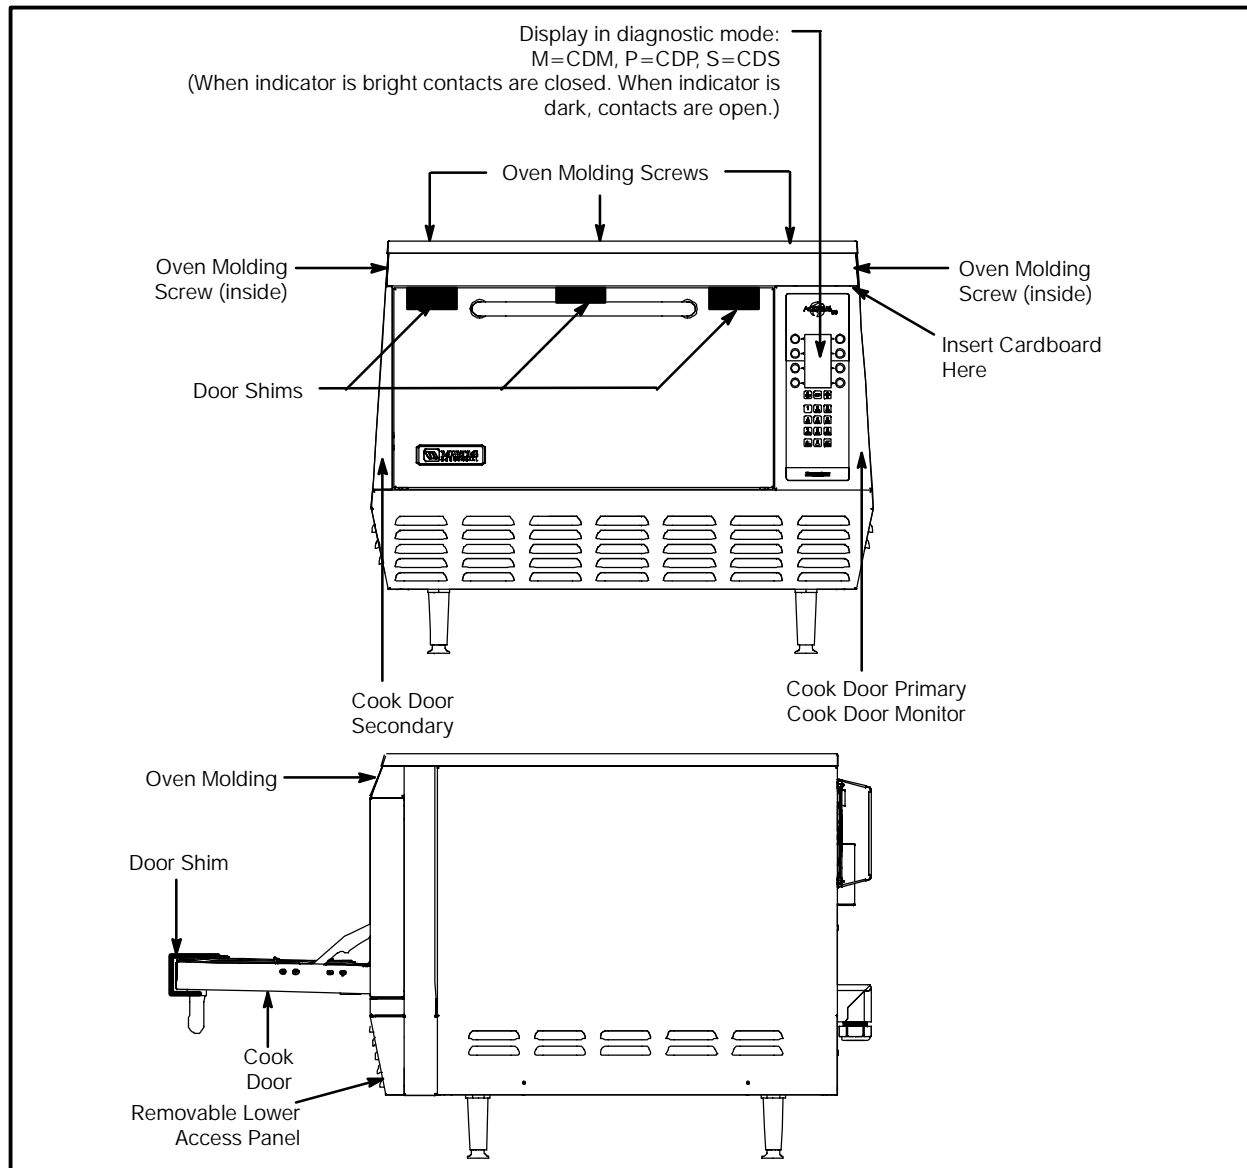

FIGURE 3
3. Loosen or remove the five screws securing the top oven molding across the top of the oven. See FIGURE 3 for location of the screws.
12. Open the C70 oven door. Slide the 0.060 shims in place as shown in FIGURE 3. The longer lip with the etching must be on the inside of the door. (All shims must be placed as such when installed on the oven door.)
13. Hold the loosened (if not removed) top oven molding up so when you open and close the door with the shims in place such that the shims will clear the molding. Shimming it with cardboard (not provided) works well. See FIGURE 3.
14. Slowly close the oven door. All door switches must be open. (The Monitor status indicator letter (M) will be dark. The Primary (P) and Secondary (S) status indicators will be dark.)
15. Open the door 2 inches, then release it. The door should close firmly and all switches must be open. (With the door closed, the Monitor status indicator letter (M) will be dark. The Primary (P) and Secondary (S) status indicators will also be dark.) Repeat and readjust the door switch activator screw as needed to meet these criteria for both the door closings before continuing. (Step 14 & Step 15)
17. Slowly close the oven door. The Monitor door switch must be closed. (With the door closed, the Monitor status indicator letter (M) will be bright.) At this time, do not worry about the other indicator status letters. You will be adjusting them later in this procedure.
18. Open the door 2 inches, then release it. The door should close firmly and the Monitor switch must be closed. (With the door closed, the Monitor status indicator letter (M) will be bright.) At this time, do not worry about the other indicator status letters. You will be adjusting them later in this procedure. Repeat and readjust the door switch activator screws as needed to meet this criteria for both the door closings before continuing. (Step 17 & Step 18).
20. Adjust the Primary and Secondary switch actuator screws so they are just open when the door is closed. (With the door closed the Primary status indicator letter (P) will be dark and the Secondary status indicator letter (S) will be dark. The Monitor indicator letter (M) will be bright.) Repeat and readjust the door switch activator screws as needed to meet these criteria before continuing.
21. Open the door 2 inches, then release it. The door should close firmly. The Primary and Secondary switches must be open when the door is closed. (With the door closed the Primary status indicator letter (P) will be dark and the Secondary status indicator letter (S) will be dark. The Monitor indicator letter (M) will be bright.) Repeat and readjust the door switch activator screws as needed to meet these criteria for both the door closings before continuing. (Step 19 & Step 20)